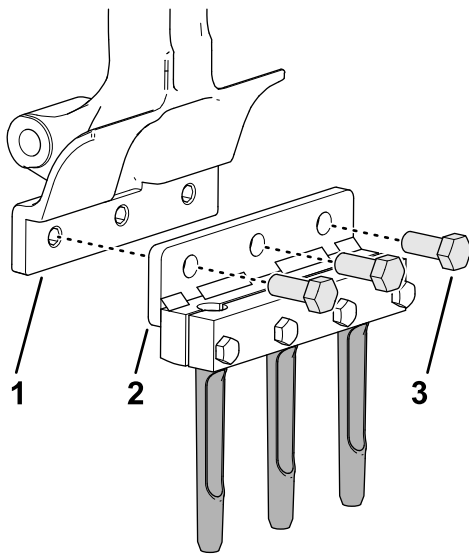

Figure 43
1. Loosely assemble tine holder and tines to tine arm #2 (Figure 42 and Figure 43) with 3 bolts (1/2 x 1-1/4 inches).